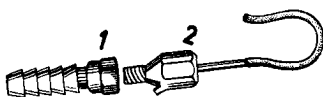

Fig. 59
3. Screw on the water valve (Fig. 59/1) with air extension (Fig. 59/2) and slip on it the hose for the liquid. Fill up the tyre with the prescribed amount of liquid.